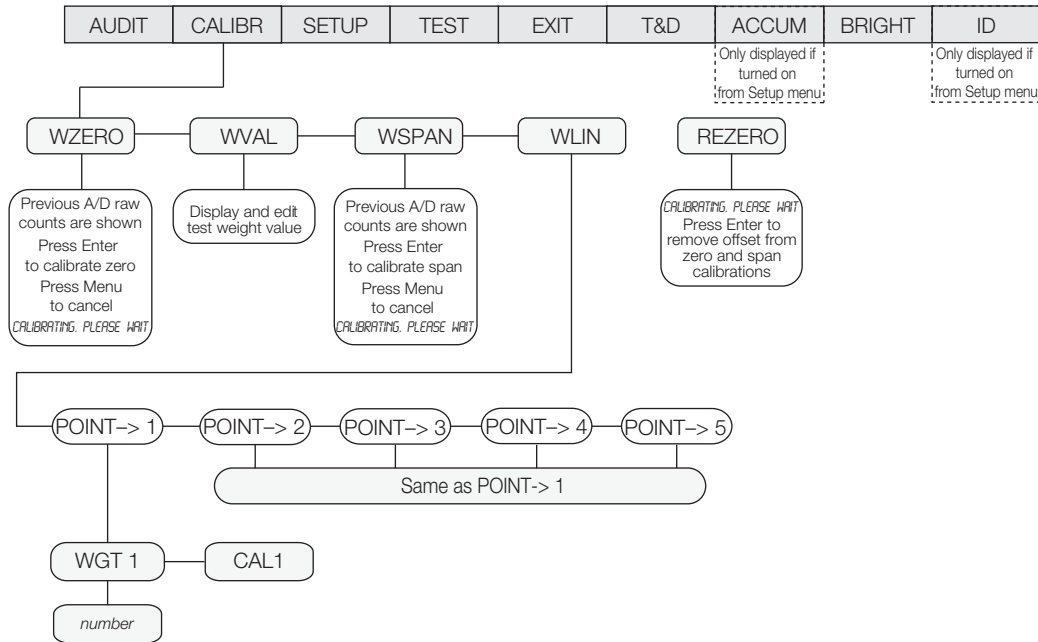

Figure 4-1. Calibration (CALIBR) Menu
**Note** Calibration can be performed in two places within the menu: the CALIBR menu shown in Figure 4-1 and the SCALE submenu shown in Figure 3-5 on page 18. The CALIBR menu is a “quick access” calibration; for more in-depth scale setup and calibration, use the menus found under SETUP»CONFIG»SCALE.
1. Press the MENU button, then press  $\triangleright$  until the display reads CALIBR (see Figure 4-1).